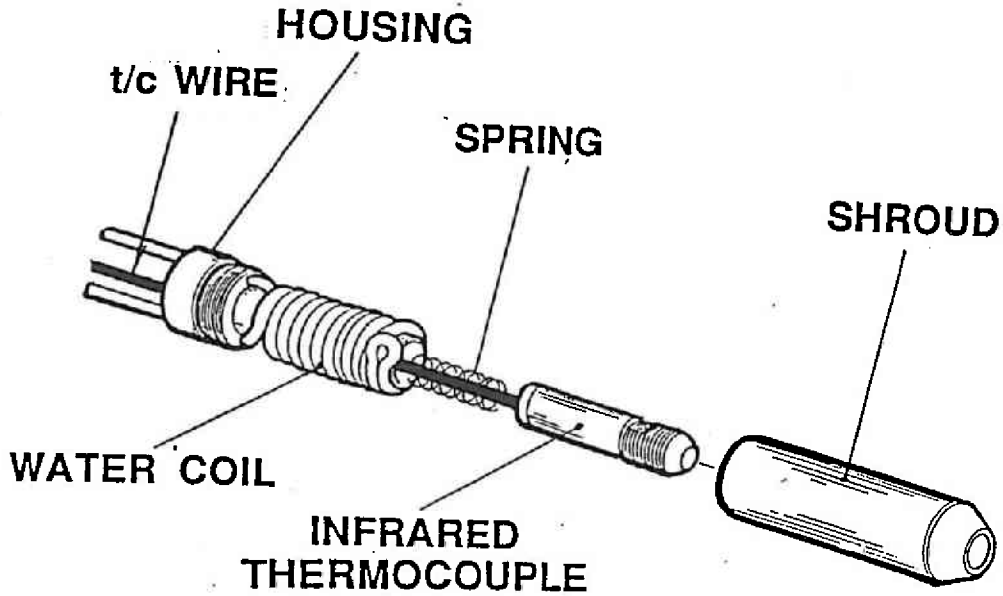

FIG.2
1. See Figure 2. Unscrew the stainless steel Shroud from the Housing.
3. Slide the end of the thermocouple cable through the Housing as shown in Figure 2.